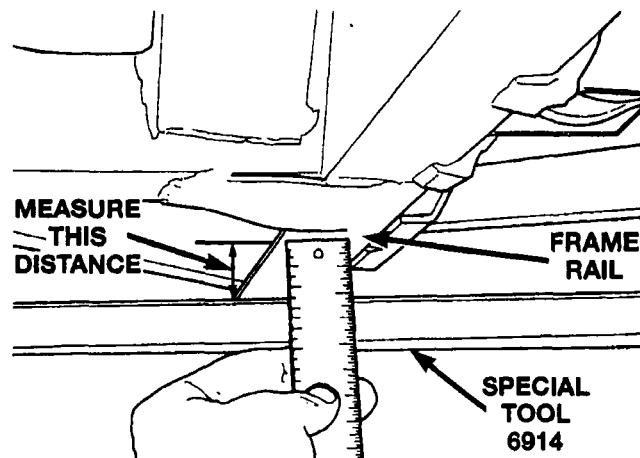

Figure 51
- b. Check the distance from the bottom of each of the **front** frame rails to the top surface of the Vehicle Height Checking Fixture (Special Tool #6914) (Figure 51). The distance should be: